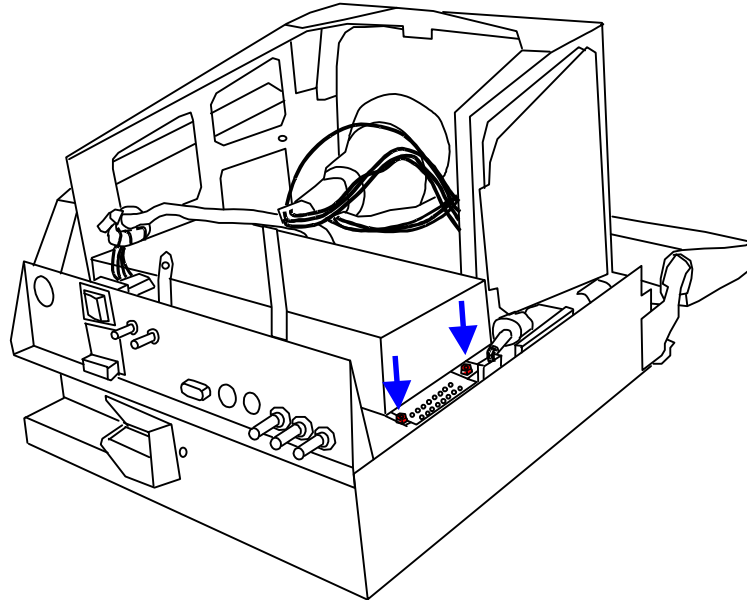

Fig. 6. 1-12. Nuts holding the Power Supply
2. Unscrew the two screws on the bracket holding the Power Supply and remove the bracket, see Fig. 6. 1-13.